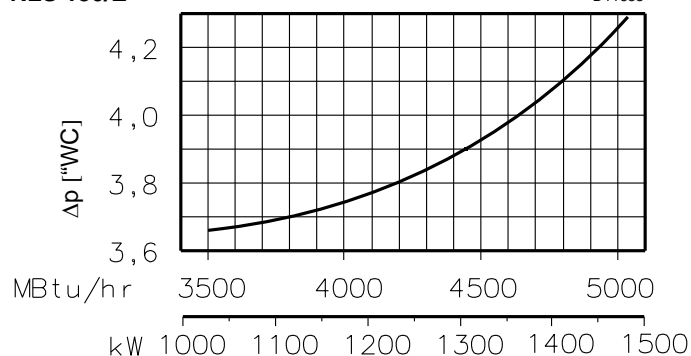

Fig. 25
- Find the nearest pressure value to your result in Fig. 25.